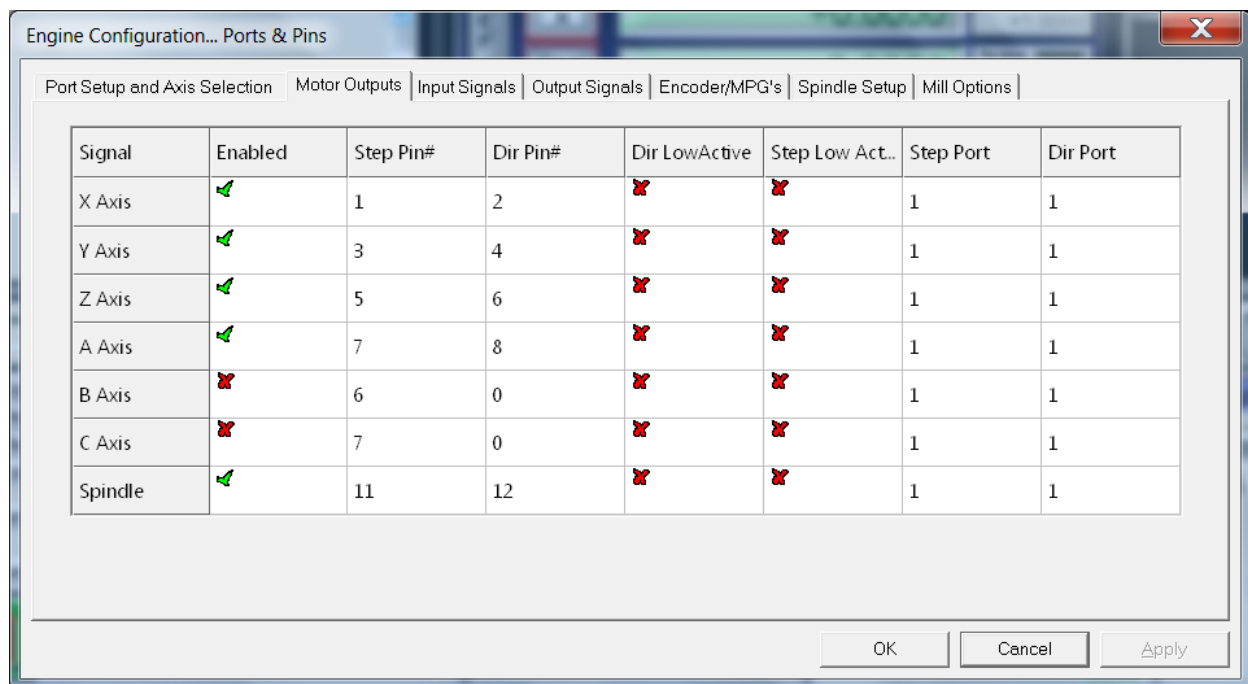
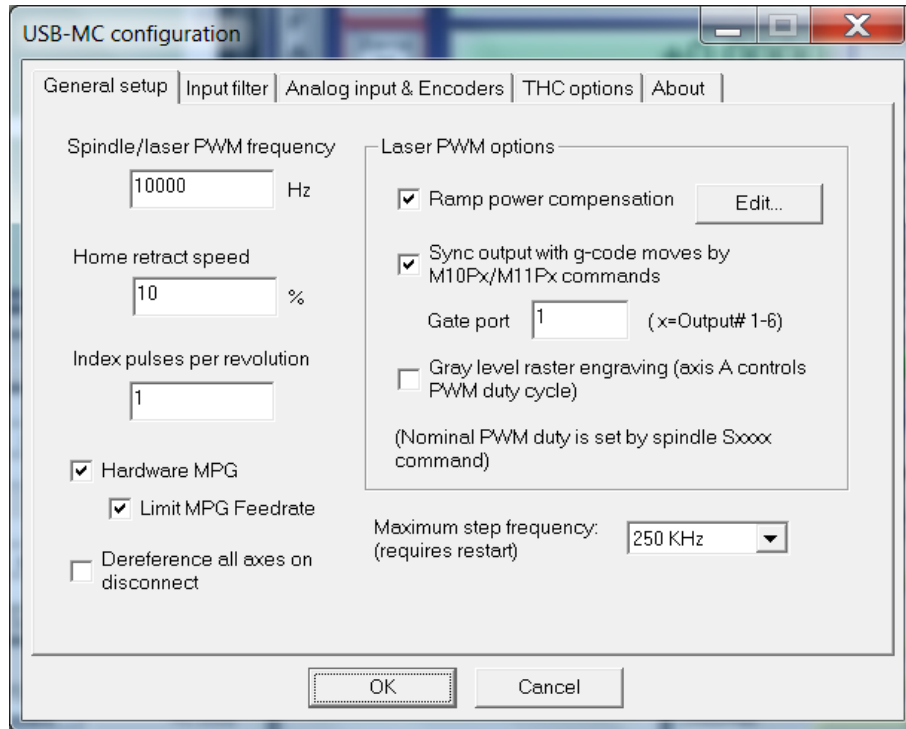

Figure 4.1 Ports and pins configuration
Figure 5.1 General setup
ISO-USB-BOX motion controller provides one digital input port with 14 pins and one digital output port with 16 pins. This pins can be remapped as desired, that is, can be assigned different functions that are needed for specific application (Figure 4.1).
ISO-USB-BOX motion controller use the same configuration dialog as USB-MC motion controller. This dialog can be opened using menu option **Plugin Control/USB-MC Config...** (Figure 5.1).
5.1 General setup tab (Figure 5.1)
The frequency of PWM output signal that is used for spindle rpm control or for laser power control, can be adjusted in range 10-200000 Hz (Figure 5.1). Output pin for this purpose is selected via **Spindle axis** line in **Motor Outputs** window (Figure 4.1). Only adjustments for **Step** signal are used (**pin/low act/port**), and **Dir** field is not used for PWM output.
This is speed of retraction from a home switch given as a percentage of homing speed (Figure 5.1). In first phase of homing (referencing) operation for an axis, movement toward home switch is performed until the switch is activated.
Index input is used for detection of spindle rotational speed. It is common to use one pulse per revolution, but more than one can also be used (Figure 5.1).
This option should be turned on if it is desired to dereference all axes in case of an error and break of connection with the controller (Figure 5.1).
Enables setting of maximum frequency for the generated step signals (Figure 5.1). Lower speed (125kHz, 4μs pulse width) is used in case when drivers/controllers that are being controlled are not fast enough for impulse width of 2μs that is required when using full speed (250kHz).
If this option is turned on (Figure 5.1) ISO-USB-BOX motion controller will use hardware MPG mode, that is, reading MPG inputs and generation of STEP/DIR output signals is done completely in hardware without
If this option is turned on (Figure 5.1), speed limit given with parameter **MPG Feedrate** is obeyed in hardware MPG mode. This parameter is located on MPG/Jog window (Figure 6.1).
Laser power compensation (Figure 5.1) is used to overcome typical problem during laser engraving, and that is that depth/intensity of engraving depends on movement speed of the laser head. This is particularly visible on start and at the end of one engraving segment, where laser head slows down and stops, so unwanted black dots appear. To eliminate this phenomenon, laser power can be controlled using PWM so that PWM duty cycle is directly dependent on velocity of laser head. Thus, for example, if velocity is zero, PWM duty cycle will also be zero. As velocity increases, also is increased duty cycle that controls laser power. It is possible to configure an arbitrary relation curve.
This option (Figure 5.1) enables that fast commands M10px and M11px, in addition to their primary function of setting state on output x (Output#1-6), at the same time can turn on/off PWM output. **Gate port** determines which output x controls PWM output in this way. So, for example, if command M11p3 is given and **gate port**=3, PWM output will be turned on.
This option is used for laser engraving of raster images and 8-bit pallet is supported (256 shades of gray) (Figure 5.1). When this option is turned on A axis is used to control laser power i.e. given "movement" of A axis directly is translated to duty cycle of PWM output.